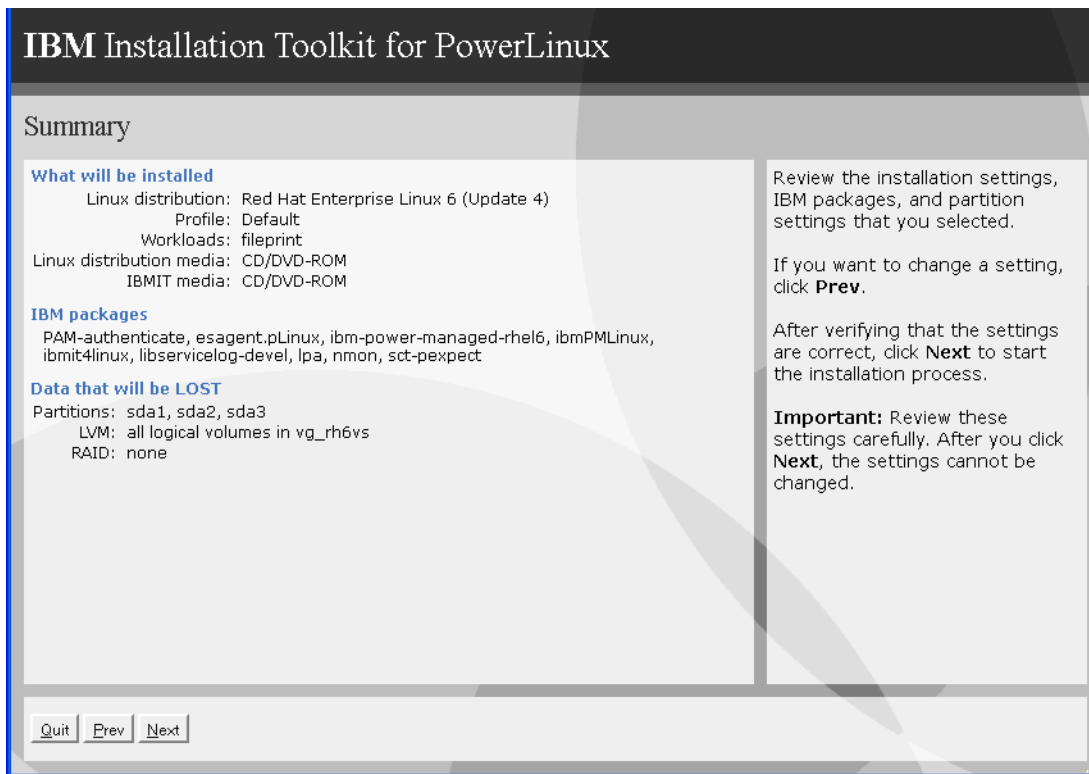

Figure 12-20 Summary of the installation
25. As shown in Figure 12-20, the summary page shows a summary of the choices that were made. Click **Next** to begin the installation of the Linux distribution and the packages that were selected.